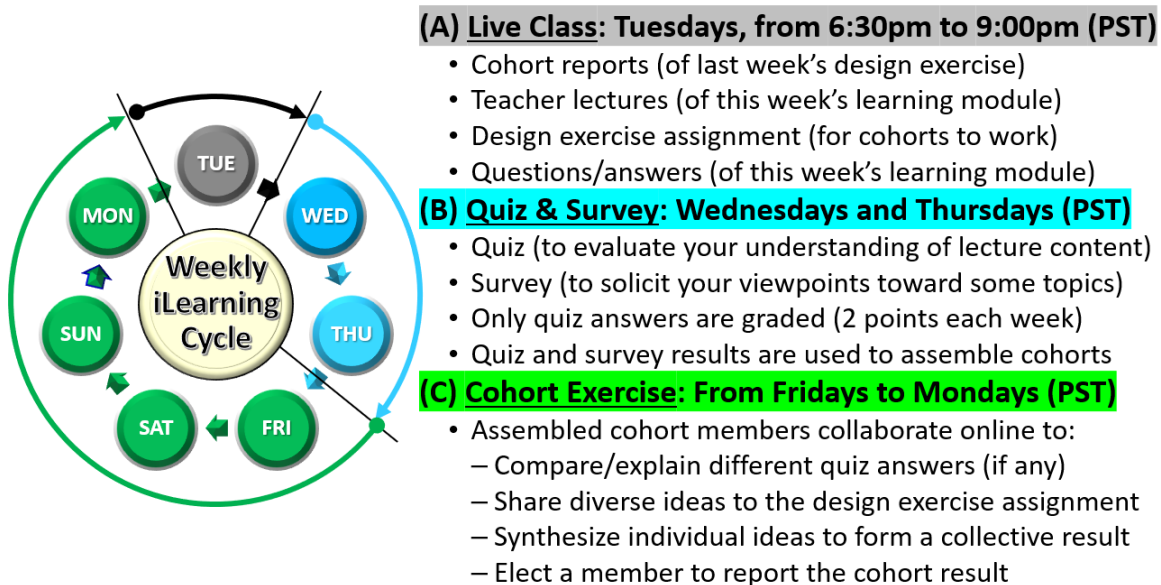

Figure 1: The Weekly iLearning Cycle consisting of live lecture, quiz and survey, and cohort discussion
Note, whether attending the live class in person or online in a synchronized mode, all students must log in to the P2P system (see Section VII) from their laptop (with webcam on and mic off) to appear in the iPodia virtual classroom. Weekly live classes include the following learning activities (see Fig.1 below):
- (1) Randomly selected cohorts to report their last week's design exercise results to the class.
- (2) The teacher lectures this week's learning module to the class. The live class attendance requirements for USC on-campus, DEN students, and other iPodia students are as follows:
- (3) The teacher announces this week's design assignment for the cohort exercise (see C below).
- (B). **Quiz & Survey:** Individual efforts on Wednesdays and Thursdays (see Figure 1 below).
- (1) Single-choice quiz questions are limited to the key concepts of this week's learning module that were explained/discussed during the live class. Quiz answers will be graded weekly (see 2. Next).
- (2) Survey questions have no right/wrong answer and are designed to solicit students' different preferences/viewpoints toward something related to the course subject. Survey completion is mandatory (for you to be included in the Cohort Exercise), but its answers will not be graded.
- (3) The P2P system will use various learning/learner diversity criteria to automatically assemble cohorts that will work on the design exercise assignment together (see next).
- (C). **Cohort Exercise:** Collective efforts with cohort members from Fridays to Mondays (see Figure 1 below).
The above three learning activities. i.e., live class, quiz & survey, and cohort exercise constitute **a weekly iLearning cycle** (where "i" stands for interaction). This weekly iLearning cycle, which is a unique feature of the iPodia class, is summarized and illustrated below (see Figure 1):